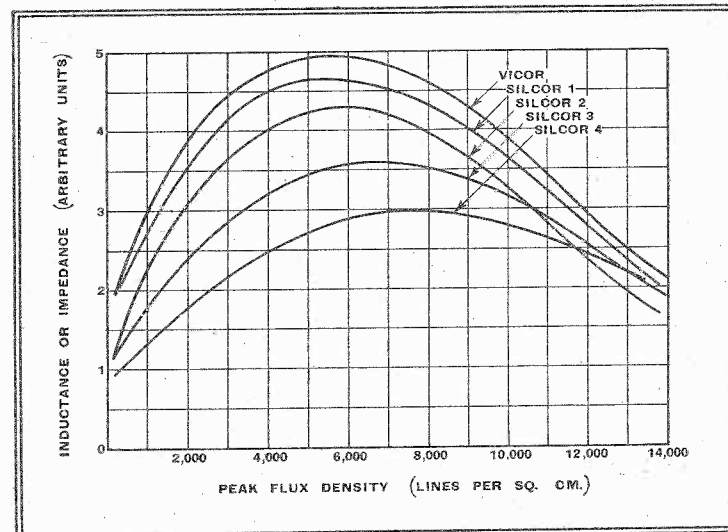

Fig. 23.—This graph illustrates the relative inductances that would be obtained by substituting five different grades of iron in a transformer.
closed. A curve similar to that given in Fig. 8 is required for each material. These will be found in Fig. 23. Using the latter curves in conjunction with Table 5 some idea of the merits of the several alloys can be obtained and also some information on how they should be used to the best advantage.
First of all, we will consider the result of substituting one in place of another without altering the windings or core area of the output transformer. Obviously, such a proceeding would change the values of both x and ZF in formula (3) and the excellence of any particular core will depend upon the ratio  $\frac{x}{Z_F}$ . In Table 6 the total distortion produced by each grade of iron has been set out, together with the relative values of ZF extracted from Fig. 23. The final column shows the relative distortion figures  $\left(\frac{x}{Z_F}\right)$ .